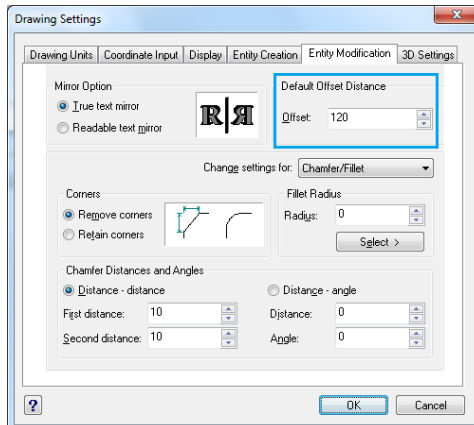

Fig. 121 – Drawing Settings dialog box
- In the **Drawing Settings** dialog box (Fig. 121), specify the fillet radius and click **OK**;